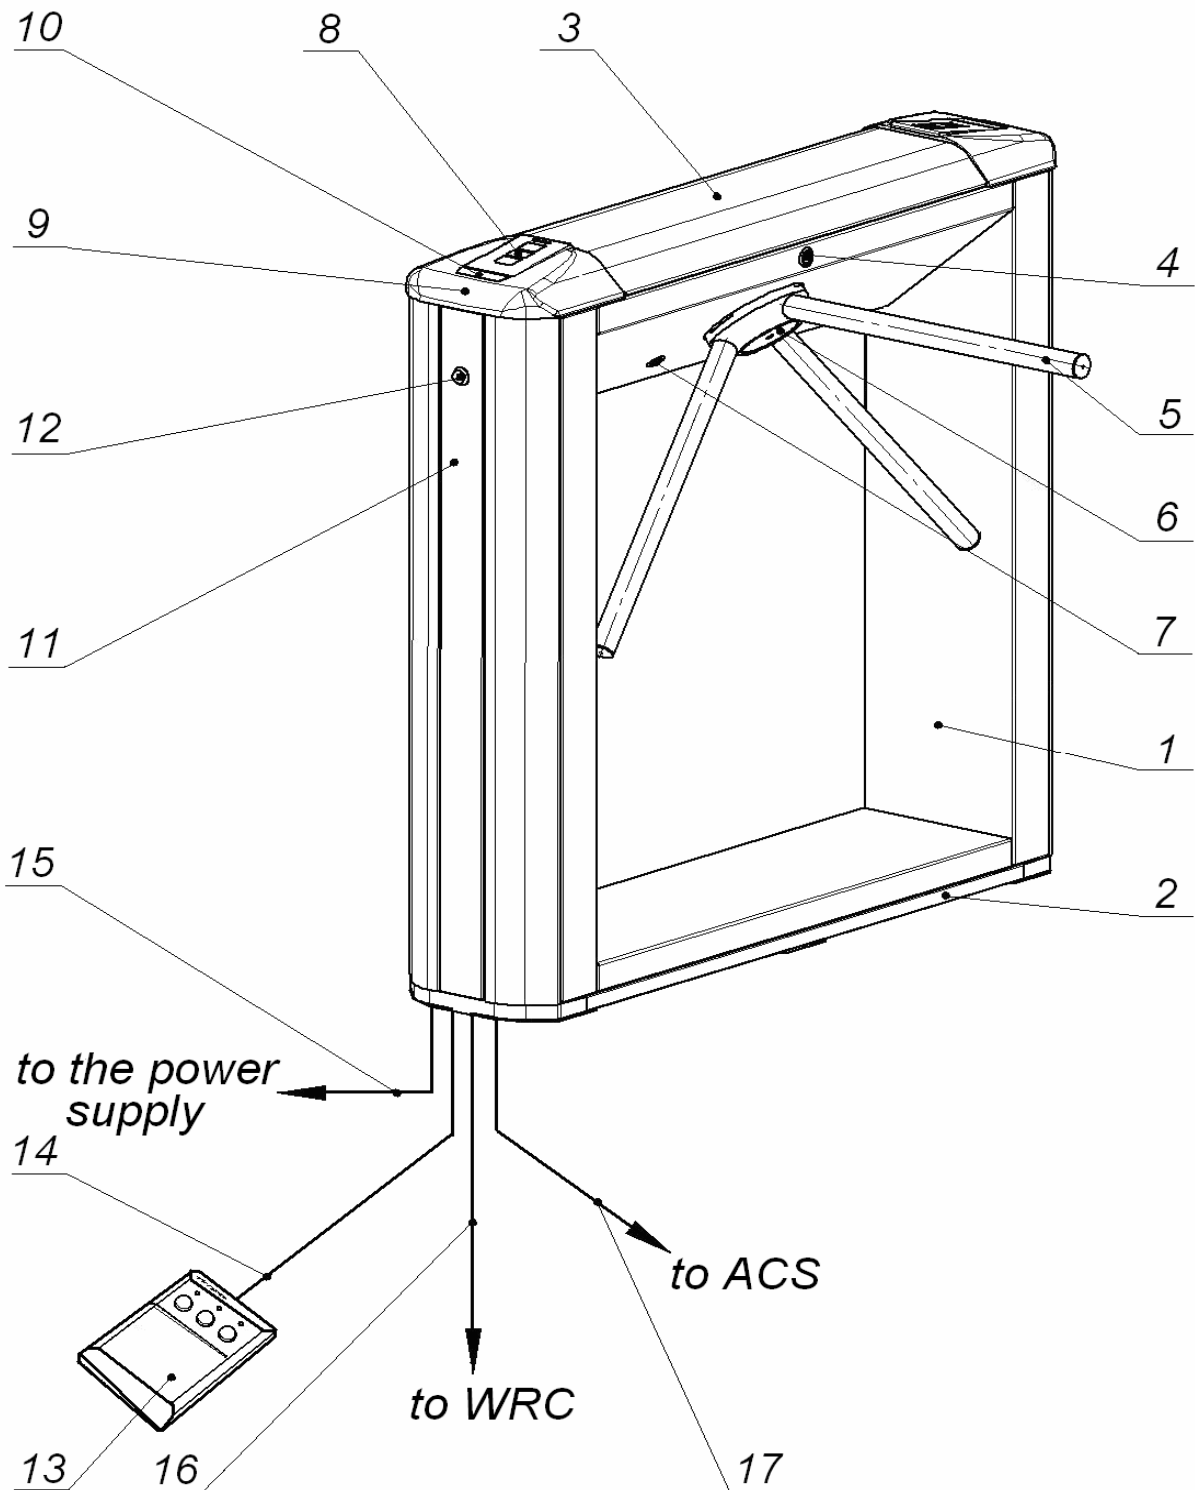

Fig. 2. TB-01 overall view
5.2.1 Design of the turnstile is shown in Fig. 2. Numbers of the items hereinafter refer to the item numbers as shown in Fig. 2 unless stated otherwise.